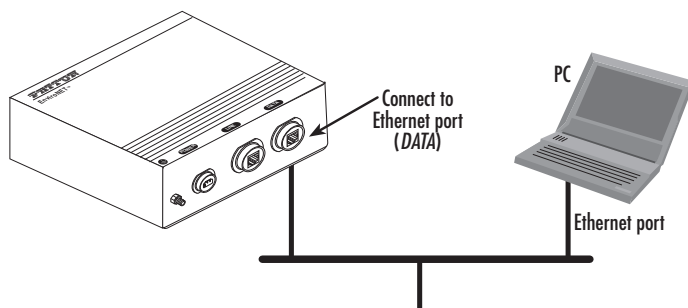

Figure 5. Connecting the EHA3201 to the local IP network
1. Connect the EHA3201's *Data* port to your PC (see figure 5).